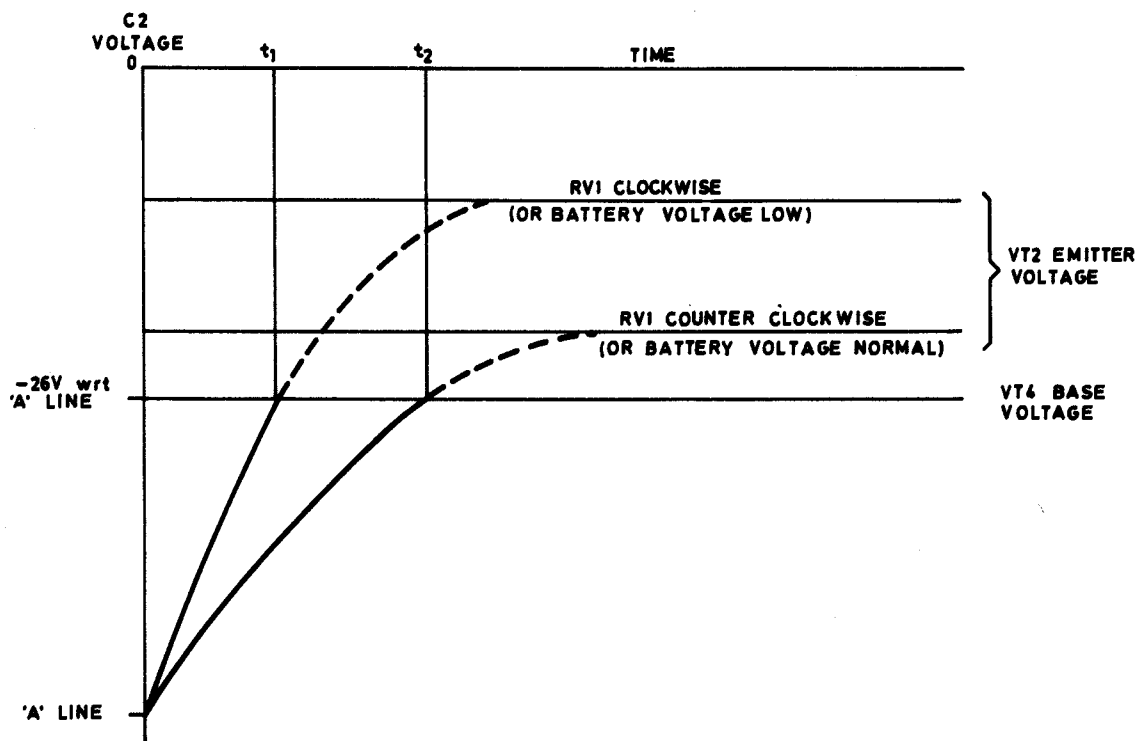

Fig.1 C2 Charging Rate
- 11 The voltage towards which C2 charges is that at the junction of VT1 and VT2 emitters. The more negative this voltage with respect to 0V, the longer will the potential across C2 take to rise to a given level. Conversely, the less negative the voltage, the quicker the potential across C2 rises to the same level (fig.1).